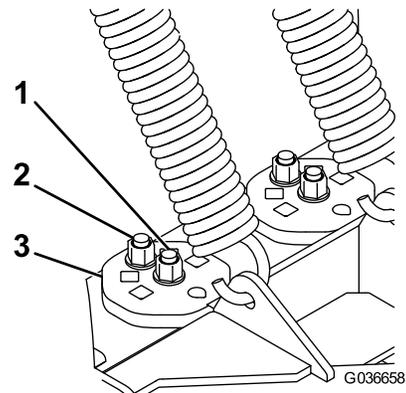

Figure 28
- On the cams, remove the bolt in the square hole and loosen the bolt in the center (Figure 28).